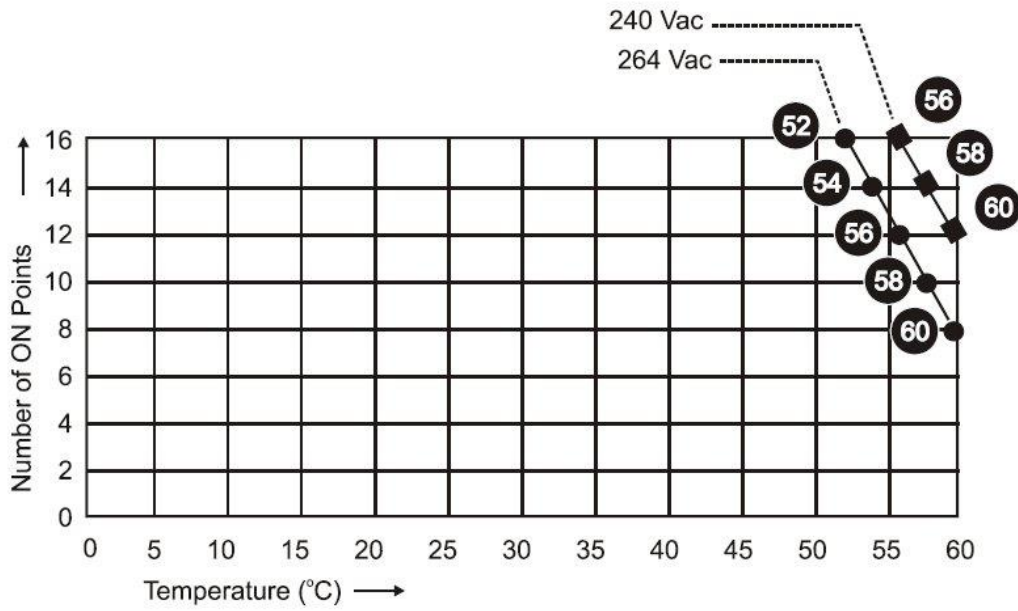

Figure 30 – AC Input Module de-Rating
2. For 240 Vac applications and temperatures above 56° C, or 264Vac, 52° C, de-rate the number of ON inputs per AC input module. (See AC Input de-rating data, see Figure 30.)